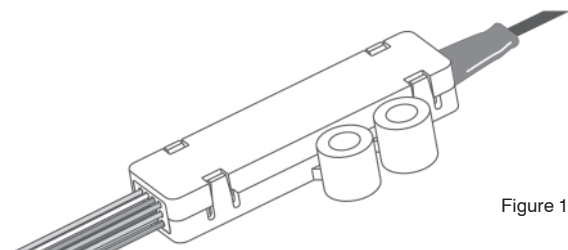

Figure 1
1.2 Fan-Outs branch the fibers from a buffer tube into individual fibers protected by 900 µm PVDF protective tubing (Figure 1). The fibers can then be connectorized according to hardware interface requirements. An assembly kit (TKT-FANBT-A) is available to assist in the installation of the BTF fan-outs.